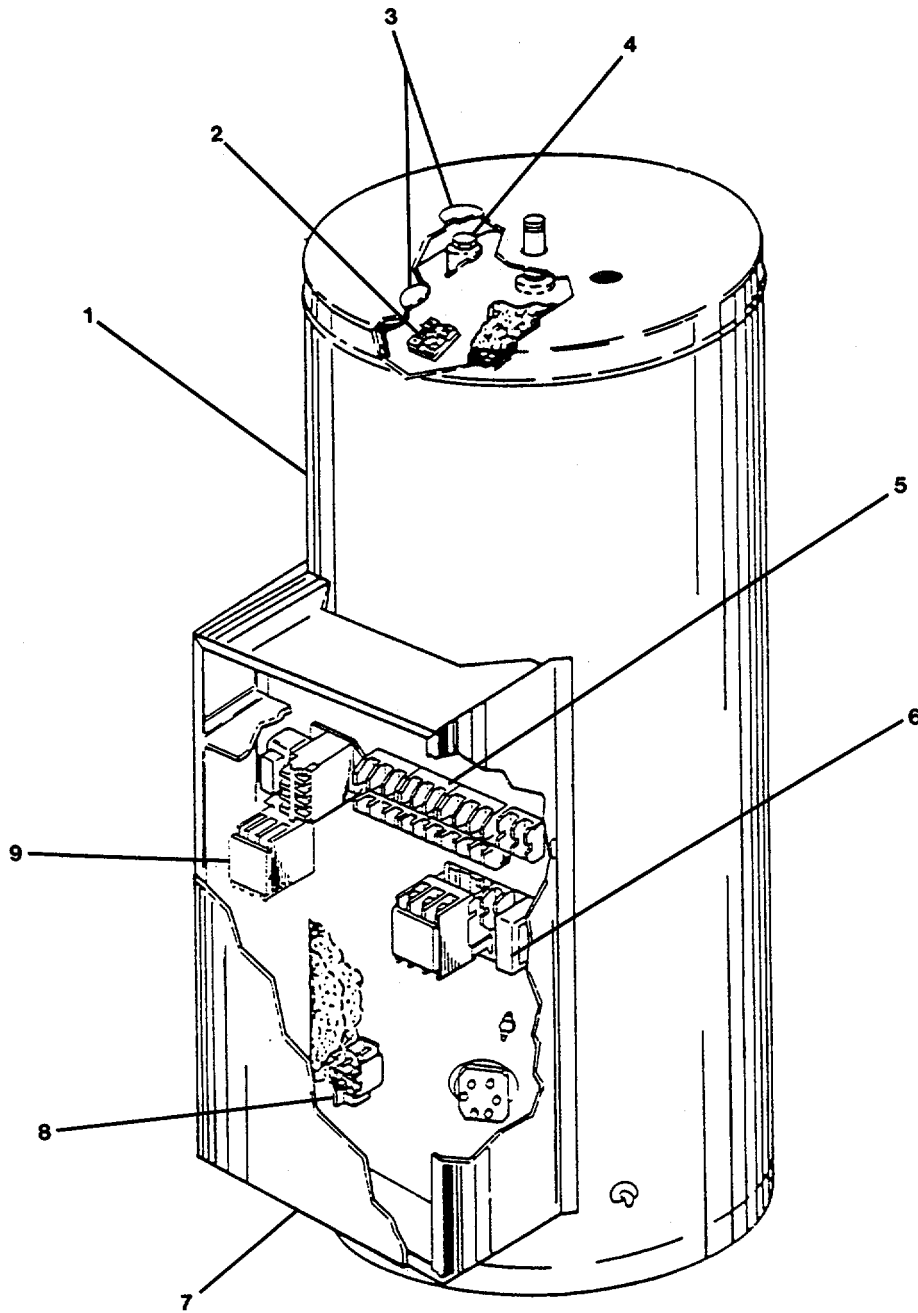

FIGURE 3-209. *Hot Water Heater Repair.*
i. Remove bolts (5) and nuts (4) and remove strap (13) from hot water heater (12).
J. Remove hot water heater (12).
a. Remove top cover plugs (3, Figure 3-209) from hot water heater (1).
b. Remove thermostatic switch (2).
c. Remove corrosion preventive anode (4).
d. Open hinged access door (7).
e. Remove fuse block (5), transformer (6), thermostatic switch (8), and contactor (9).
- a. Install contactor (9, Figure 3-209), thermostatic switch (8), transformer (6), fuse block (5).
- b. Close hinged access door (7).
- c. Install corrosion preventive anode (4) and thermostatic switch (2).
- d. Install top cover plugs (3) on hot water heater (1).